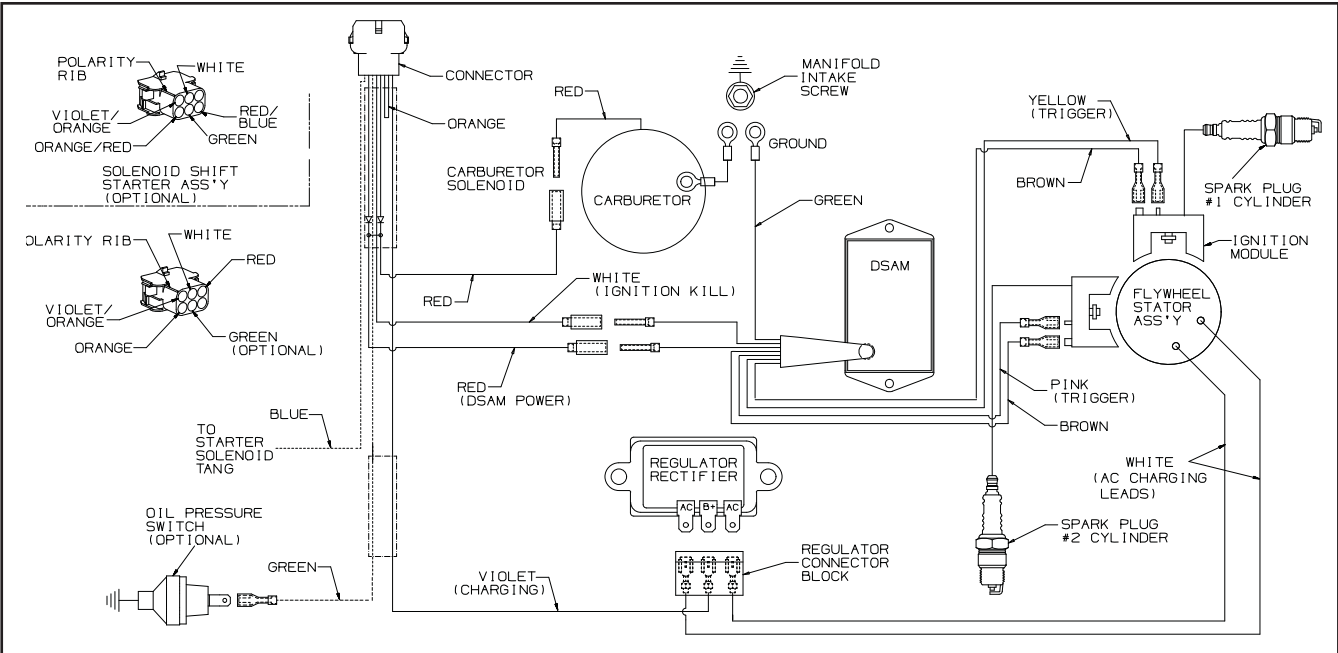

Figure 7-9. Digital Spark Advance Module (DSAM) Ignition System.
DSAM, previously known as Smart-Spark™, equipped engines utilize an electronic capacitive discharge ignition system with electronic spark advance. A typical application (Figure 7-9) consists of the following components:
- Two electronic capacitive discharge ignition modules which mount on the engine crankcase (Figure 7-9).
- A spark advance module which mounts to the engine shrouding (Figure 7-9).
**Operation:** The ignition module for this system operates in the same fashion as the fixed timing module, except the trigger circuit for the semi-conductor (L2, Figure 7-5) is replaced by the spark advance module (Figure 7-9).